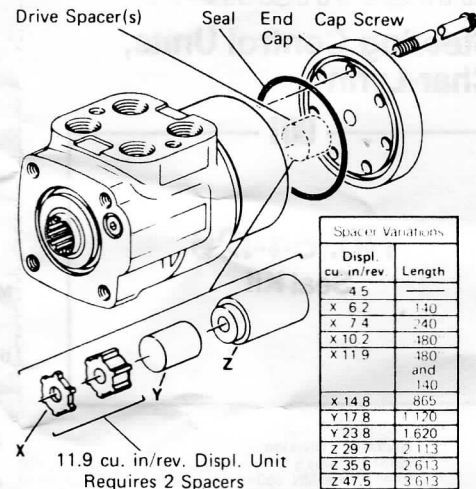

Figure 8
- 32 Install drive spacer(s) when used in meter (gerotor) see Fig. 8.